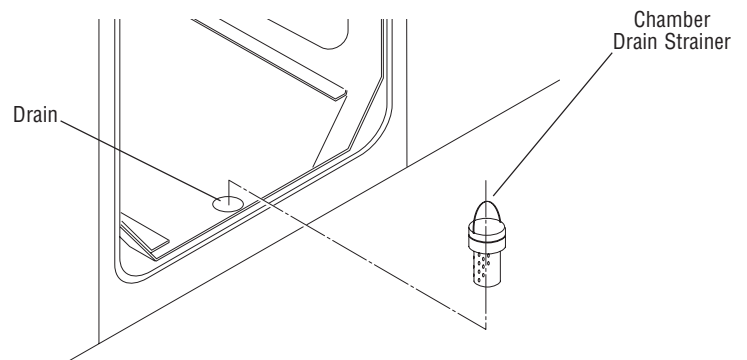

Figure 11-1. Remove Chamber Drain Strainer
1. Remove the drain strainer from the drain in the bottom of the chamber as shown in Figure 11-1.
2. Remove chamber drain strainer (Figure 11-1). Clean strainer using procedures given above, if necessary.